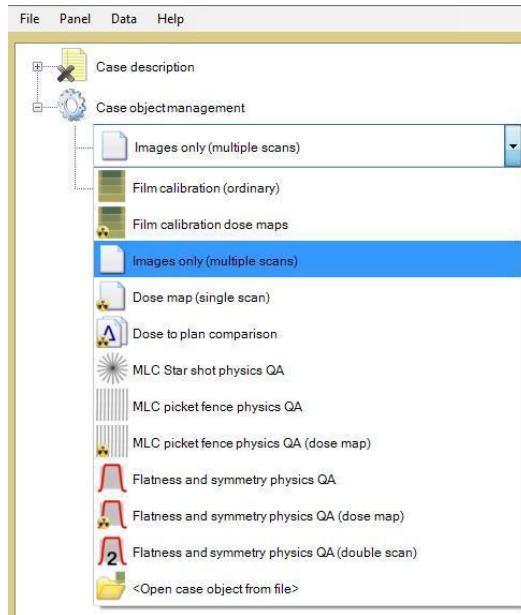

Figure 5: Images only 'Multiple scan' Case Object
Step 9: Turn on the scanner, connect a computer and open the FilmQA Pro application. From the drop-down menu (Figure 5) under "Case Object Management" select "Images only (multiple scans)".